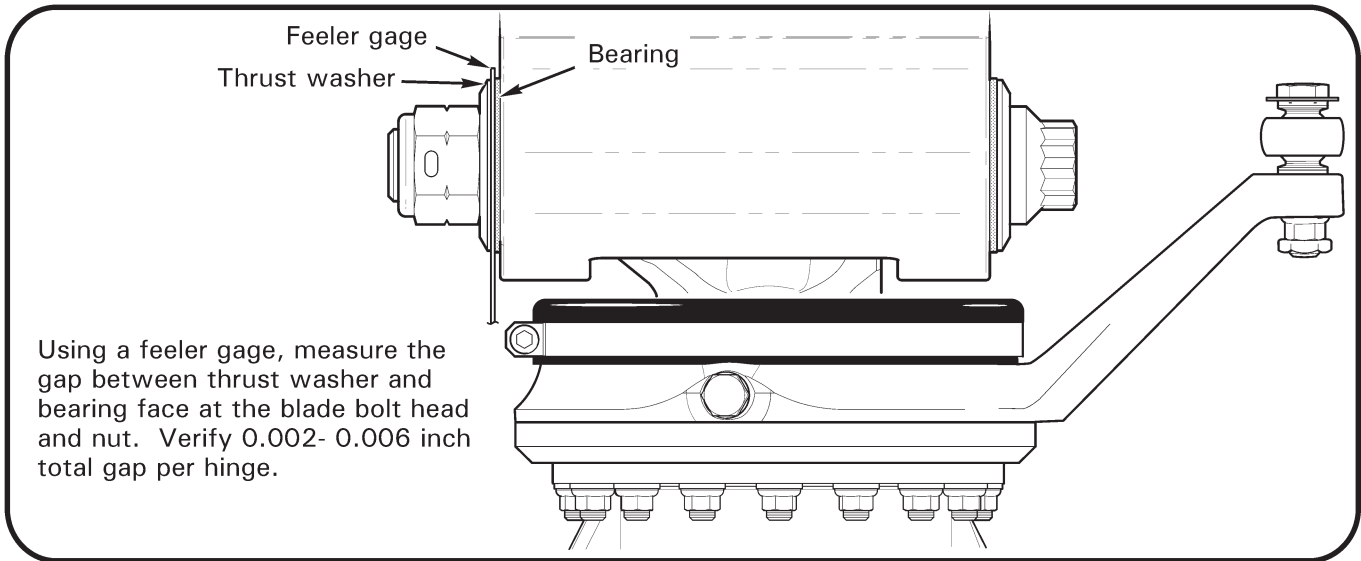

FIGURE 26-8 MEASURING CONING HINGE AXIAL GAP
- a. B370-1 Hub: Adjust coning hinge friction by changing trailing-edge shim stack thickness in small increments; reducing shim stack thickness increases friction, increasing shim stack thickness reduces friction. Coning hinge friction is zero when there is a measurable axial gap per Figure 26-8. Install shims, thrust washer, and nut.
- b. A154-1 Hub: Adjust coning hinge friction by changing trailing-edge journal length in small increments; using a shorter journal increases friction, using a longer journal reduces friction. Coning hinge friction is zero when there is a measurable axial gap per Figure 26-8. Install journal, thrust washer, and nut.